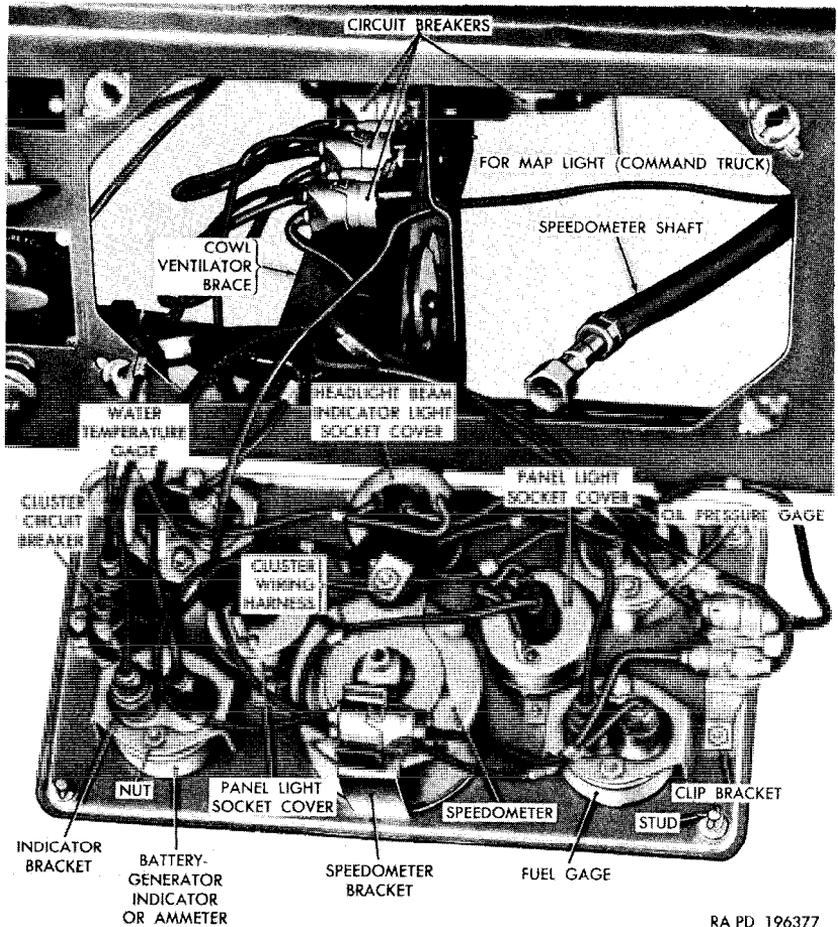

Figure 144. Instrument cluster and circuit breakers.
- (1) Disconnect the speedometer shaft from the speedometer (fig. 144).
- (2) Disengage the four instrument cluster studs and lower the instrument cluster sufficiently to provide access to the headlight beam indicator and panel light socket covers.
- (3) Press the socket cover and turn it counterclockwise to disengage it from the light body. Remove the lens and the lamp.